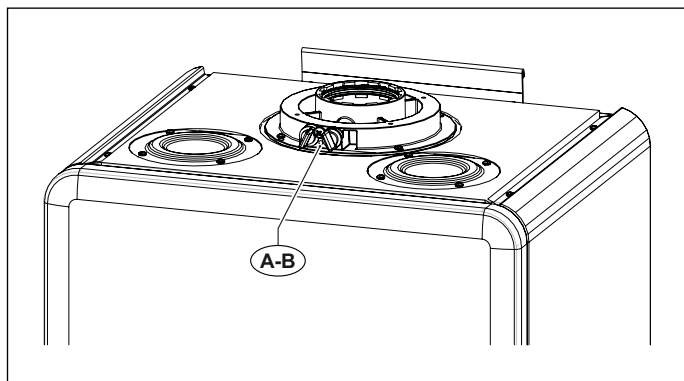
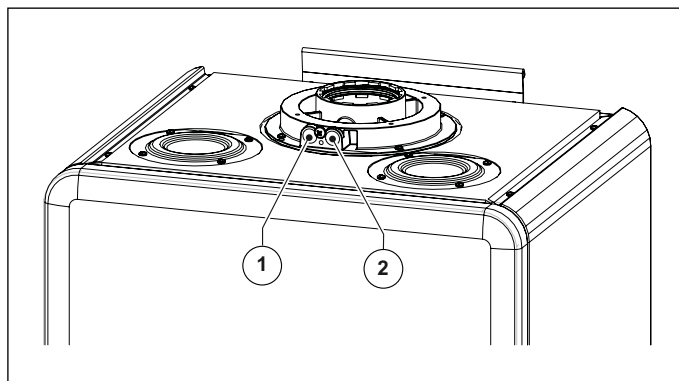

Fig. 19 Caps position
Fig. 20 Hole position
The boiler is equipped with a tower allowing for air intake/flue gas venting pipe connection (see Fig. 19 Caps position and Fig. 20 Hole position).
The tower is designed with two pre-arranged openings directly accessing air and flue gas ducts (see Fig. 20 Hole position).
Remove caps **A** and **B** from the pre-arranged openings on the tower, before taking the measurements (see. Fig. 19 Caps position).
- assess combustion air from opening **1** (see Fig. 20 Hole position).
- assess flue gas and CO₂ temperature from opening **2** (see Fig. 20 Hole position).